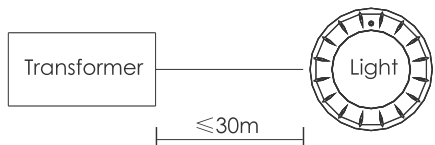

Figure 2
- 7) The cables connecting the lights and the transformers must be at least 6mm2 and the distance between them must not exceed 30m (Figure 2); other wise the lights will not function properly.
- 7) 水灯到变压器的之间的电缆线不可少于6mm2, 安装距离不可以超过30米。(如图2); 因电缆线规格小或安装距离太长, 我们的水下灯就不可以完全点亮。